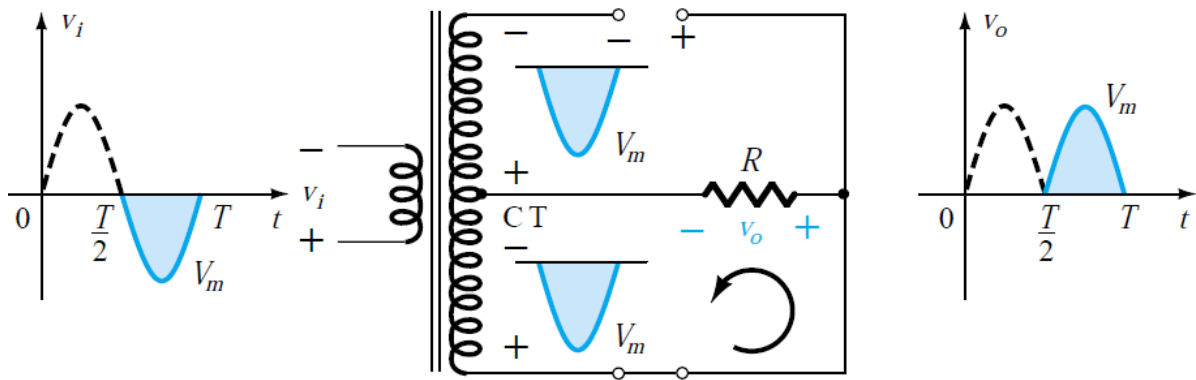

Figure 2.19: Network conditions for the negative region of  $v_i$ .
- During the Negative portion of  $v_i$ ,  $D_2$  assumes the short-circuit equivalent and  $D_1$  the open-circuit equivalent. The output voltage appears as shown in Figure 2.19.